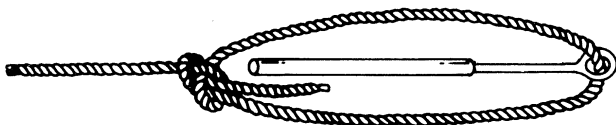

Fig. 3
3.03 Pull about 4 feet of line from the center of the roll through the hole in the front end of the canister. Attach this end to the projectile using a bowline knot with a loop long enough so that the knot is behind the projectile as shown in Fig. 3.